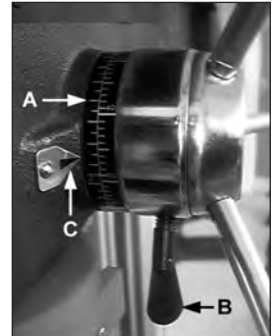

Fig. 12
2. Spindle Depth. (Ref. Fig. 12)